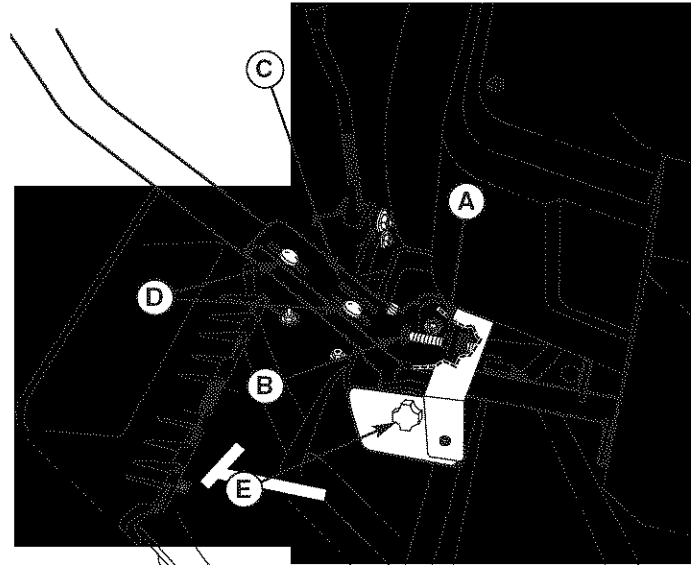

Figure 34. Control Lever Adjustment
**To Adjust Control Lever Height:** Pull the levers in across the operator's lap to their DRIVE positions. Loosen the mount bolts (D, Figure 34) and raise or lower the levers to the desired position. Tighten the mounting bolts.(D).
**To Adjust Control Lever End Gap:** The control lever end gap should be adjusted so that the levers do not contact each other when placed in DRIVE positions. Loosen the jam nut (A, Figure 34) and adjust the length of the carriage bolt (B) so that the levers do not contact each other. Repeat on the opposite side. Tighten the jam nut (A) to lock the carriage bolt in position.
**To Adjust Operator Clearance:** The space between the operator and the control levers can be increase by removing the lower mounting bolt (D, Figure 34), pivoting the lever forward, and reinstalling the capscrew through the control lever and forward slot (C). Repeat with the other ground speed lever.
If the rider veers to the right or left when the ground speed control levers are in the maximum forward position, the top speed of the right lever can be balanced by turning the adjustment knob (E, Figure 34). Loosen the jam nut and turn the knob COUNTERCLOCKWISE to increase speed or CLOCKWISE to decrease speed. Tighten the jam nut when complete.